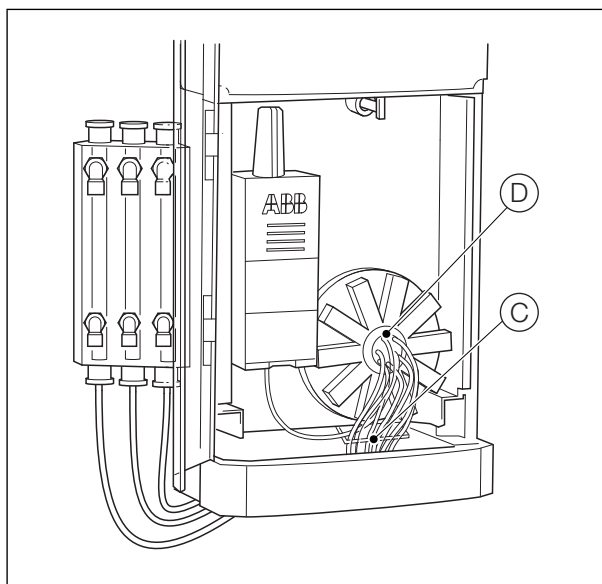

Fig. 13.5 Replacing the Waste Tube
2. Referring to Fig. 13.5:
- b. Remove the tube from clip (C) and discard.
- c. Route the new waste tube as noted in step a and connect it to the waste valve connector (D) on the valve manifold.